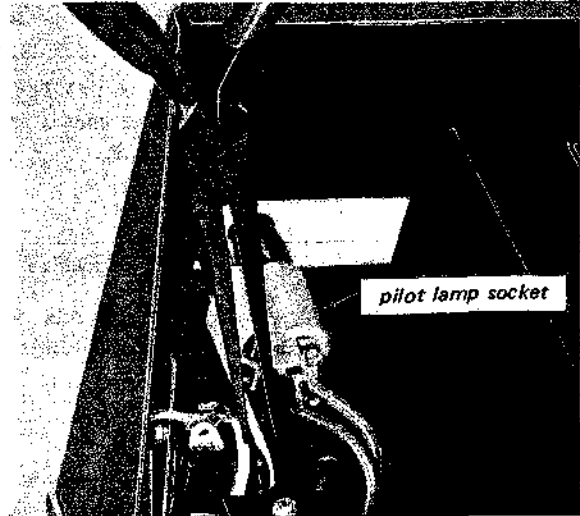

Fig. 2-4. Pilot lamp replacement
2. Straighten the tab of the pilot lamp holder to permit the removal of the pilot lamp socket, then pull out the pilot lamp socket. See Fig. 2-4.